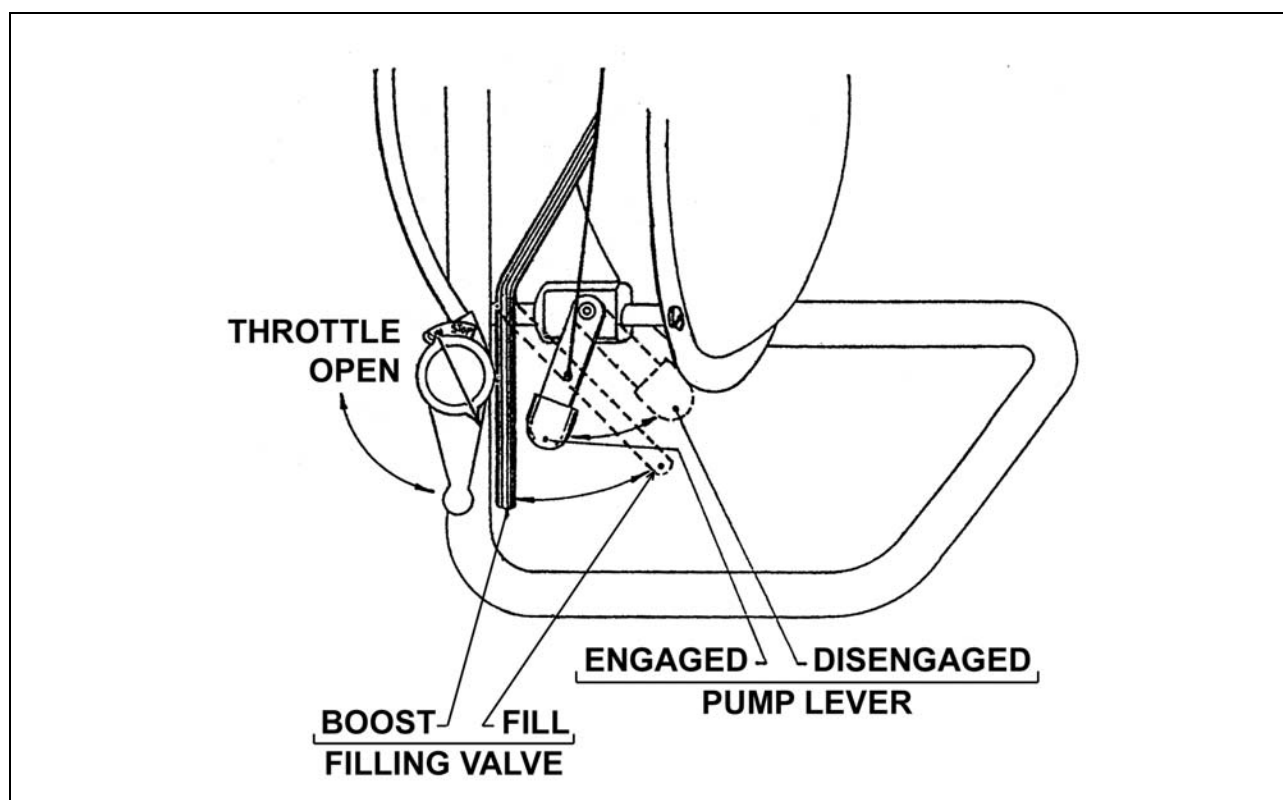

Fig. 2 – Controls for Pump and Suction Filling Valve
1. Before starting the sprayer, ensure that the chemical valve lever is in the BOOST position and that the pump is DISENGAGED (see Fig. 2).
3. Set the valve lever to the FILL position (see Fig. 2).